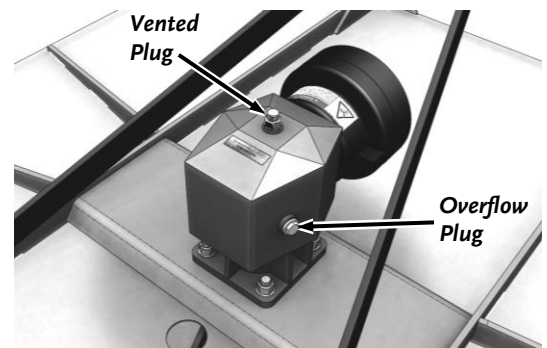

Figure 9
1. Remove the Vented Gearbox Plug from the top of the Gearbox using a 22mm Wrench (Figure 9).